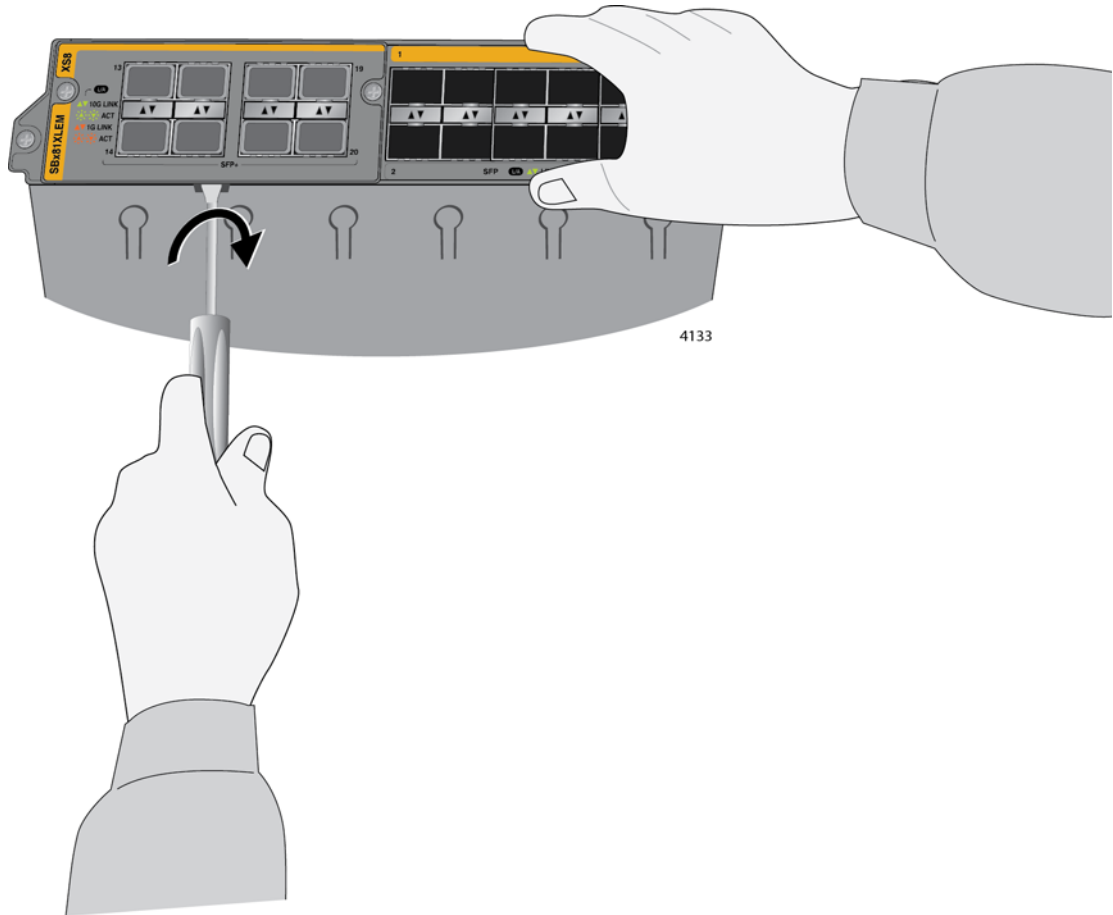

Figure 171. Disconnecting the Expansion Module from the AT-SBx81XLEM Line Card
5. Lift the front of the line card and carefully insert the tip of a flathead screwdriver into the slot beneath the expansion module on the bottom panel. Gently twist the screwdriver to disconnect the module from the connector in the line card. Refer to Figure 171.